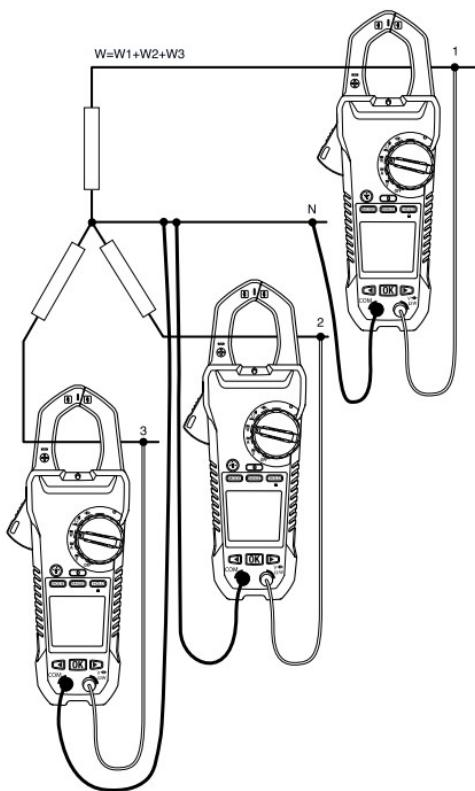

Figure 5.4 Three-phase four-wire measurement
The power of a three-phase four-wire configuration is measured in three steps, according with Figure 5.4. The total power is the sum of the three measurements: $W = W_1 + W_2 + W_3$.
3. Take three measurements of the active power, in accordance with Figure 5.4.